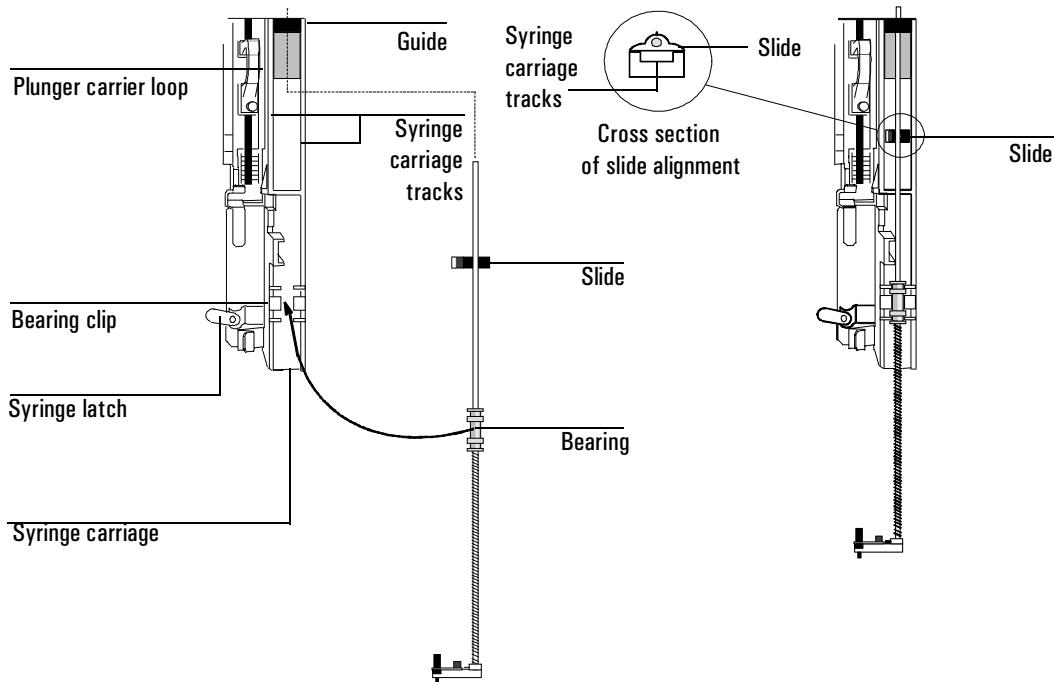

Figure 14 **Installing the needle support assembly (250-320- μ m shown)**
7. Turn the needle support assembly so that the flat surface of the slide glides up and down the syringe carriage tracks as shown in Figure 14.